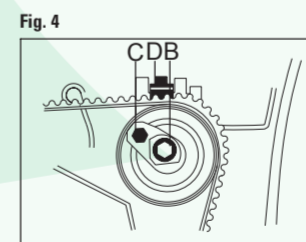

Fig. 4
- FIGURE 4 Unloose blocking bolt B, turn belt tensioner clockwise on the eccentric regulator C, align D indicator in the control zone D, tighten blocking bolt B. 50°C tension temperature.